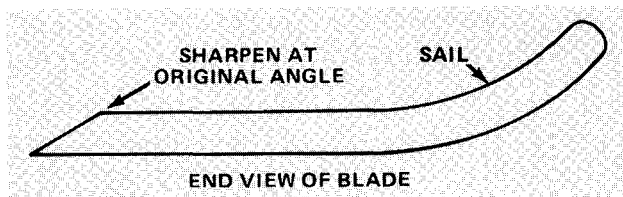

Figure 11
2. Inspect cutting edges of all blades. Sharpen the cutting edges if they are dull or nicked. Sharpen only the top of the cutting edge and maintain the original cutting angle to make sure of sharpness (Fig. 11). The blade will remain balanced if same amount of metal is removed from both cutting edges.